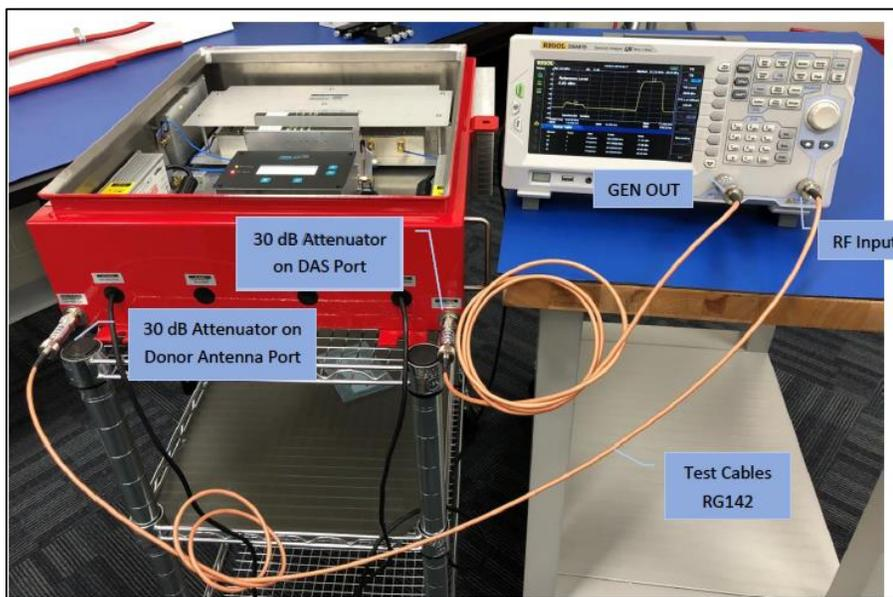

Figure 1.7
4. Attach the test cable to the "RF Input" port of the Spectrum Analyzer (no attenuator should be attached to this port) to the Donor Antenna port of the BDA (i.e. the 30dB attenuator) (See Figure 1.7).